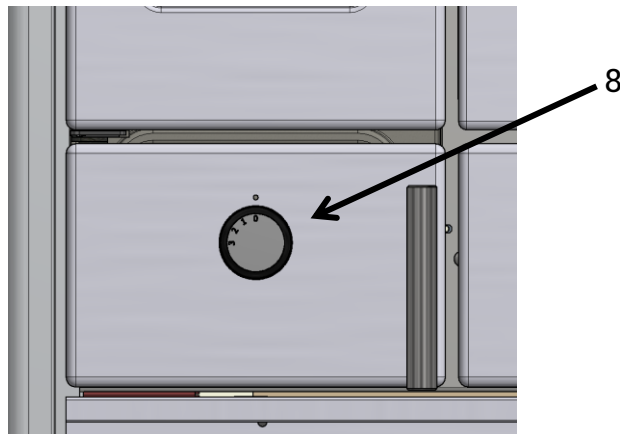

Figure 3
The primary combustion air and thus the heating capacity of the stove is determined by the primary air for combustion. This air is controlled by the primary air control on the ashtray door (Fig. 1, item 3). The button on the ashtray door (Fig. 3, item 8) shows the direction of the opening and closing the slide opening. For firing, the air control should be opened to a maximum (set the button to the position 3).
- * Open the primary air control to the largest air release (Fig. 3, item 9)